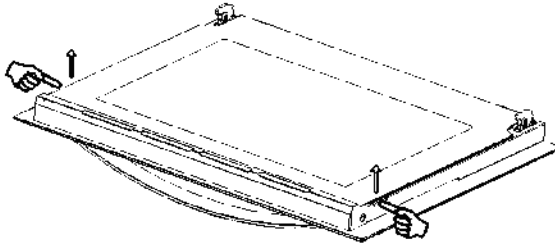

Figure 8
1. To insert index finger into disassembly groove and pry up inside glass, as shown in figure 8.